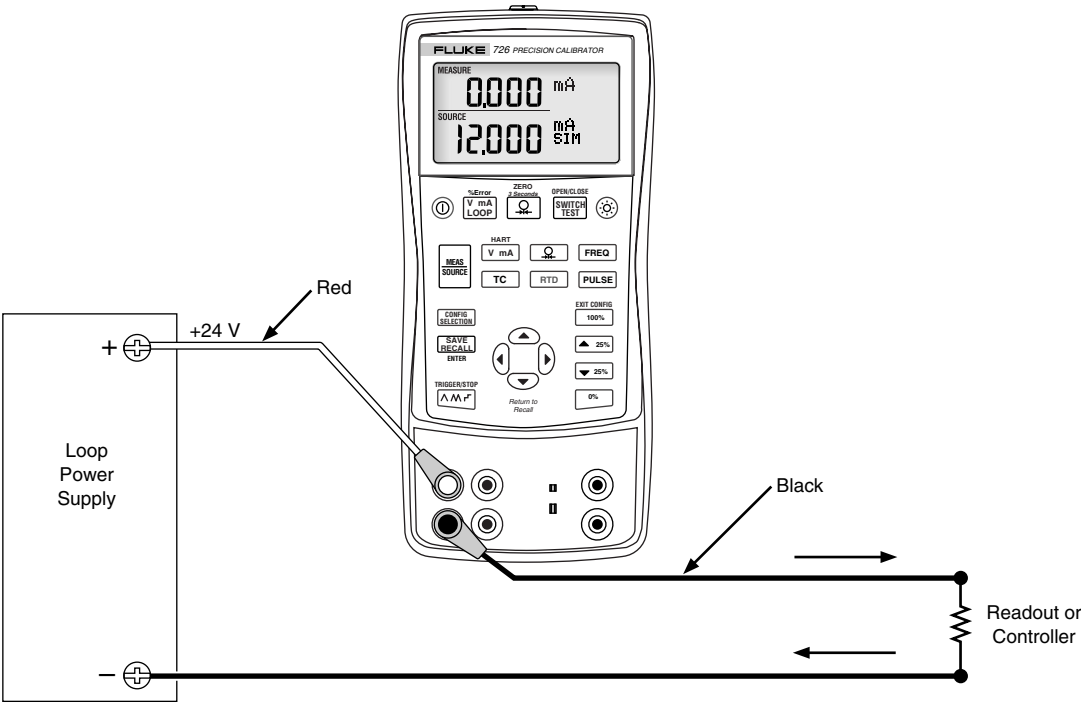

Figure 14. Connections for Simulating a 4- to 20-mA Transmitter
1. Connect the 24 V loop power source as shown in Figure 14.